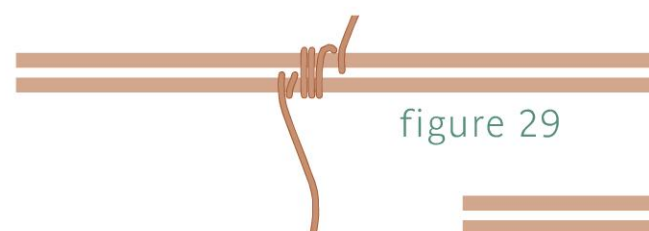

figure 29
- 3 Coil the weaving wire two times around a frame wire (this is Frame Wire 1). Hold a second piece of 16-gauge wire parallel to Frame Wire 1. Coil the weaving wire around both frame wires three times about 1" (2.5 cm) from the end. On the third coil, bring the weaving wire up between the two frame wires (Figure 29). **NOTE:** The coils made around the first frame wire were done to maintain space when the second frame wire was added. Uncoil the two coils of wire.